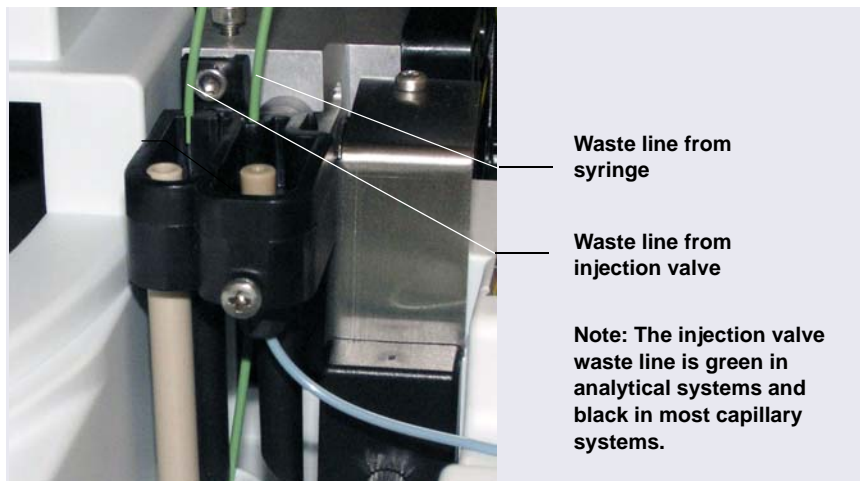

Figure 3-12. Injection Valve Waste Line Installed in Dionex AS-AP Waste Port
4. Route the line to the Dionex AS-AP waste port and insert the line into one of the round openings in the waste port (see Figure 3-12).